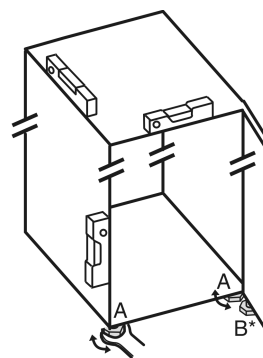

Fig. 6
- ▶ Unscrew the adjustable feet Fig. 6 (A) using the enclosed open-end spanner and a spirit level until the appliance is firmly aligned and level.
- ▶ Unscrew the adjustable foot *Fig. 6 (B)* on the swap bearing block with the enclosed open-end spanner until it rests on the floor.
- ▶ Turn the adjustable foot *Fig. 6 (B)* 90° further.